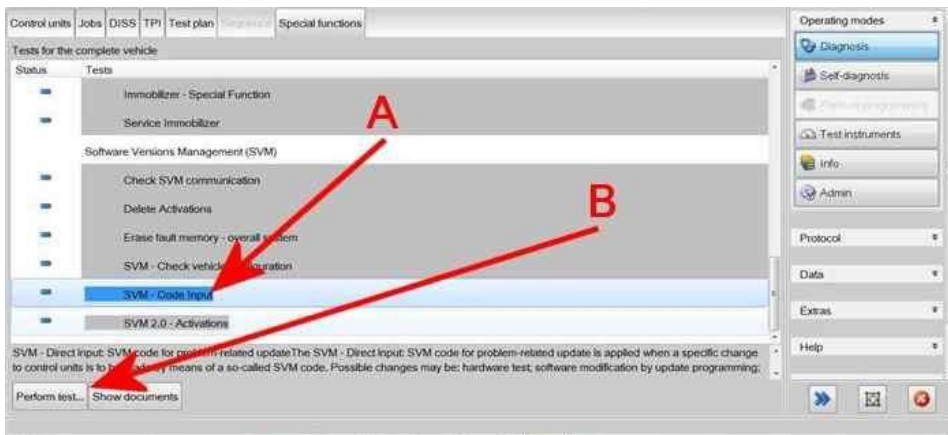

Figure 7
3) Referring to Figure 7 - Within the Special functions tab select SVM - Code Input (A) then select Perform test (B)